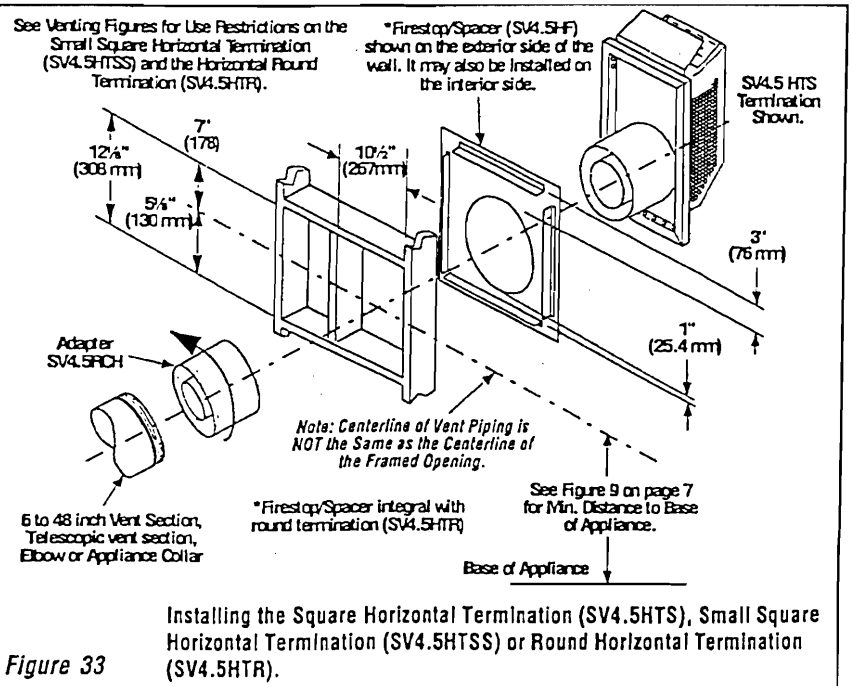

Figure 33
If the terminus of the last section is not within this distance, use the telescopic vent section SV4.5LA, as the last vent section. For wall thicknesses greater than that shown in *Figure 33*, refer to *table 4 on page 17*. This table lists the additional venting components needed (in addition to the termination and adapter) for a particular range of wall thicknesses.
K. Attach termination adapter - Attach the adapter (adapter - SV4.5RCH - provided with the termination) to the vent section or telescoping vent section, elbow or appliance collar as shown in *Figure 33* in the same manner as any SV4.5 vent component (refer to Step E).
L. Install Firestop/Spacer at exterior wall - When using the square termination, install SV4.5HF (Secure Vent), SF4.5HF (Secure Flex) Firestop/Spacer over the opening at the exterior side of the framing, long side up, with the 3 inch spacer clearance at the top as shown in *Figure 33*, and nail into place.